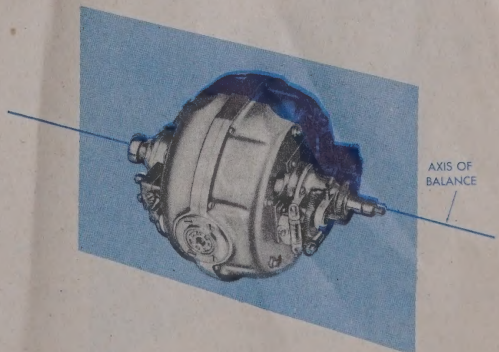
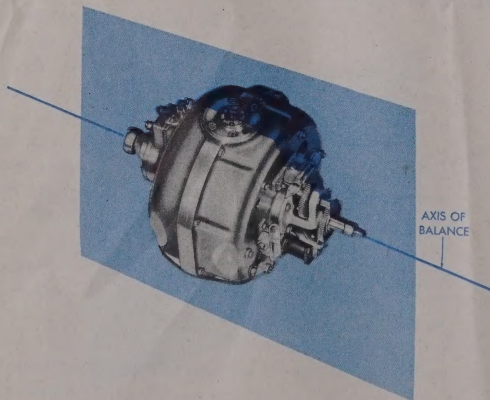

Figure 201 — Spin Balancing About Plane I
Figure 202 — Spin Balancing About Plane II
(13) **SPIN BALANCE ROTOR AND CASE ASSEMBLY.**—For ease in balancing about axis 2, as described in this section, paragraph 2, a, (2), the rotor and case assembly is first "spin" balanced to make sure that Plane 1 divides its weight equally. (See figure 201.) It is also advisable to "spin" balance about Plane 2. (See figure 202.) Accurate "spin" balancing about these two planes gives a balanced rotor and case assembly. Thus, in subsequent balancing operations, where the rotor and case assembly is part of the unit being balanced, any unbalance will *not* be caused by unbalance of the rotor and case assembly and therefore indicates unbalance of the other parts of the assembly. Correction can then be made on these other parts rather than on the rotor and case assembly.
(a) Support rotor and case assembly on a spin balance stand, as shown in figure 201.
(b) (See figure 158.) Rotate assembly to position shown, and balance by adding weights at points 3, 4 and 12, or 6, 7 and 10 (depending on which side is heavy) to obtain balance about the plane, as shown in figure 201.
(c) Rotate assembly to position shown in figure 202. Balance by adding weights at points (figure 158) 5 and 13, or 8 and 11 (depending on which side is heavy) to obtain balance about the plane, as shown in figure 202.